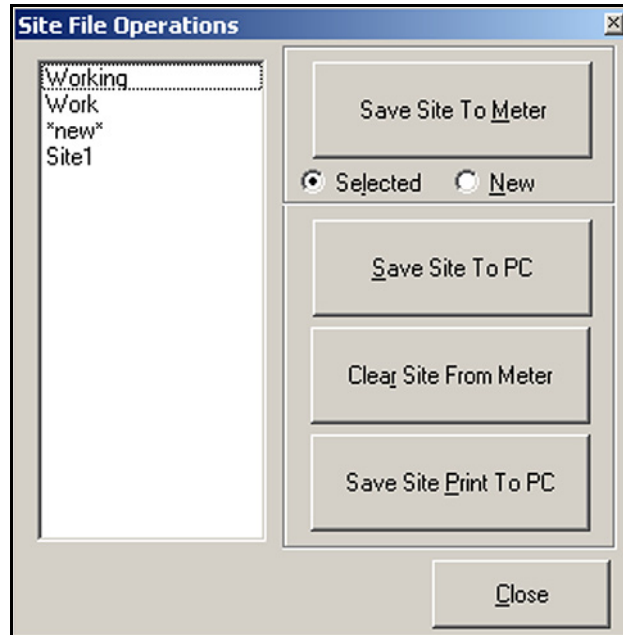

Figure 31: Site File Operations Screen
To access your site files, click on the *Site Files* button in the *Properties* Screen to open the *Site File Operations* screen shown in *Figure 31* below.
1. Highlight the desired site file in the left pane (see *Figure 31 on page 105*).
1. Highlight the site file in the left pane (see *Figure 31 on page 105*).